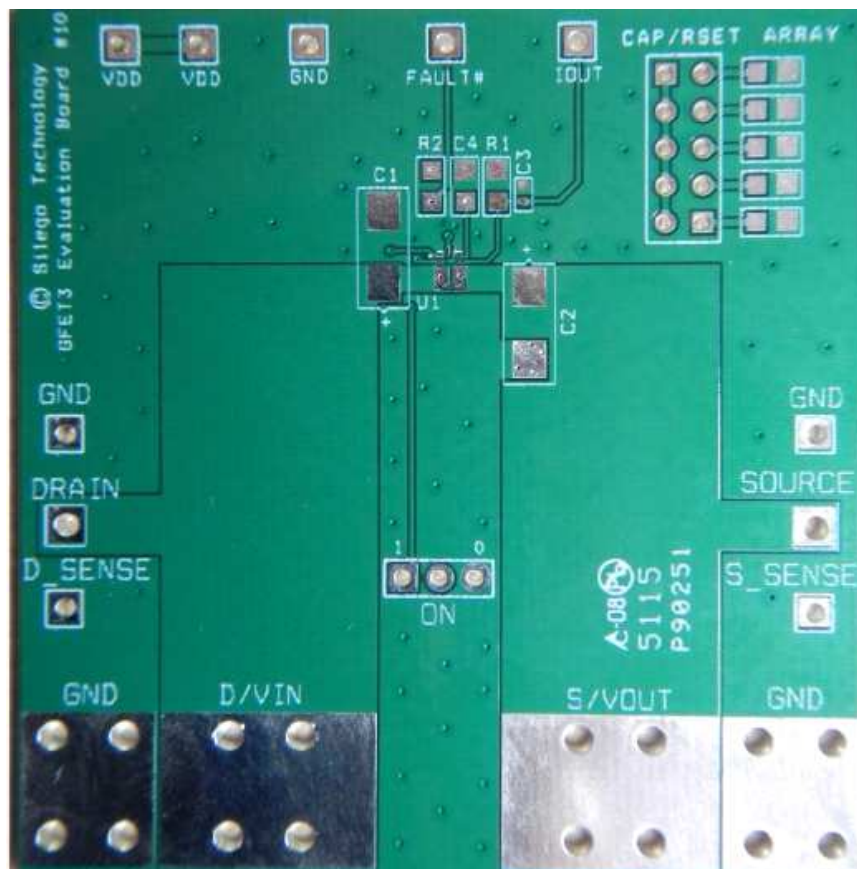

Figure 19. SLG59M1713V Evaluation Board
2. Since the VIN and VOUT pins dissipate most of the heat generated during high-load current operation, it is highly recommended to make power traces as short, direct, and wide as possible. A good practice is to make power traces with an absolute minimum widths of 15 mils (0.381 mm) per Ampere. A representative layout, shown in Figure 19, illustrates proper techniques for heat transfer as efficiently as possible out of the device;
A GreenFET Evaluation Board for SLG59M1713V is designed according to the statements above and is illustrated on Figure 19. Please note that evaluation board has D_Sense and S_Sense pads. They cannot carry high currents and dedicated only for RDS_{ON} evaluation.